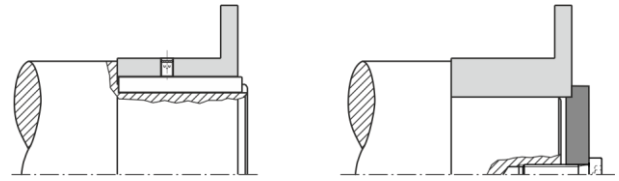

Fig. 6
- a) Mount the hubs (1 / 1.4 / 1.5) onto the shafts using a suitable device and secure them axially (Fig. 6). Axial securement takes place using a set screw (adjusting screw), which presses radially onto the key; or via a press cover and a screw, screwed into the shaft threaded centre hole.